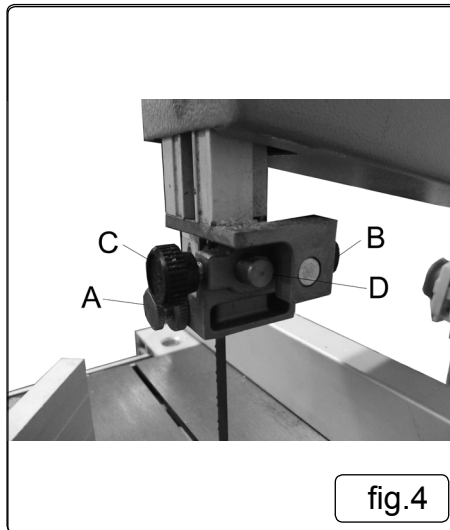

fig.4
- 5.5.1. The upper blade side guides prevent excessive sideways movements of the saw blade. They should be adjusted so that they are just clear of the saw blade. Adjust the guides (figs.4 & 5A) on both sides. Turn the top wheel twice to check correct alignment and that are correctly positioned, then tighten the locking nuts to secure. Re-check guides for correct positioning.
- 5.5.2. The upper blade guide rear bearing prevents the saw blade from being pushed backwards when cutting. It should be adjusted so that it is just clear of the blade (0.75mm). Loosen knob (figs.4 & 5.C) and move the bearing (figs.4D) inwards so that it touches the blade, then adjust it out slightly to just clear of the saw blade. Tighten knob to secure. Re-check for correct positioning.
- 5.5.3. Knob (fig.4 & 5B) is for adjustment / leveling of bearing housings and can be moved backwards and forwards in conjunction with bearing (fig4.D).